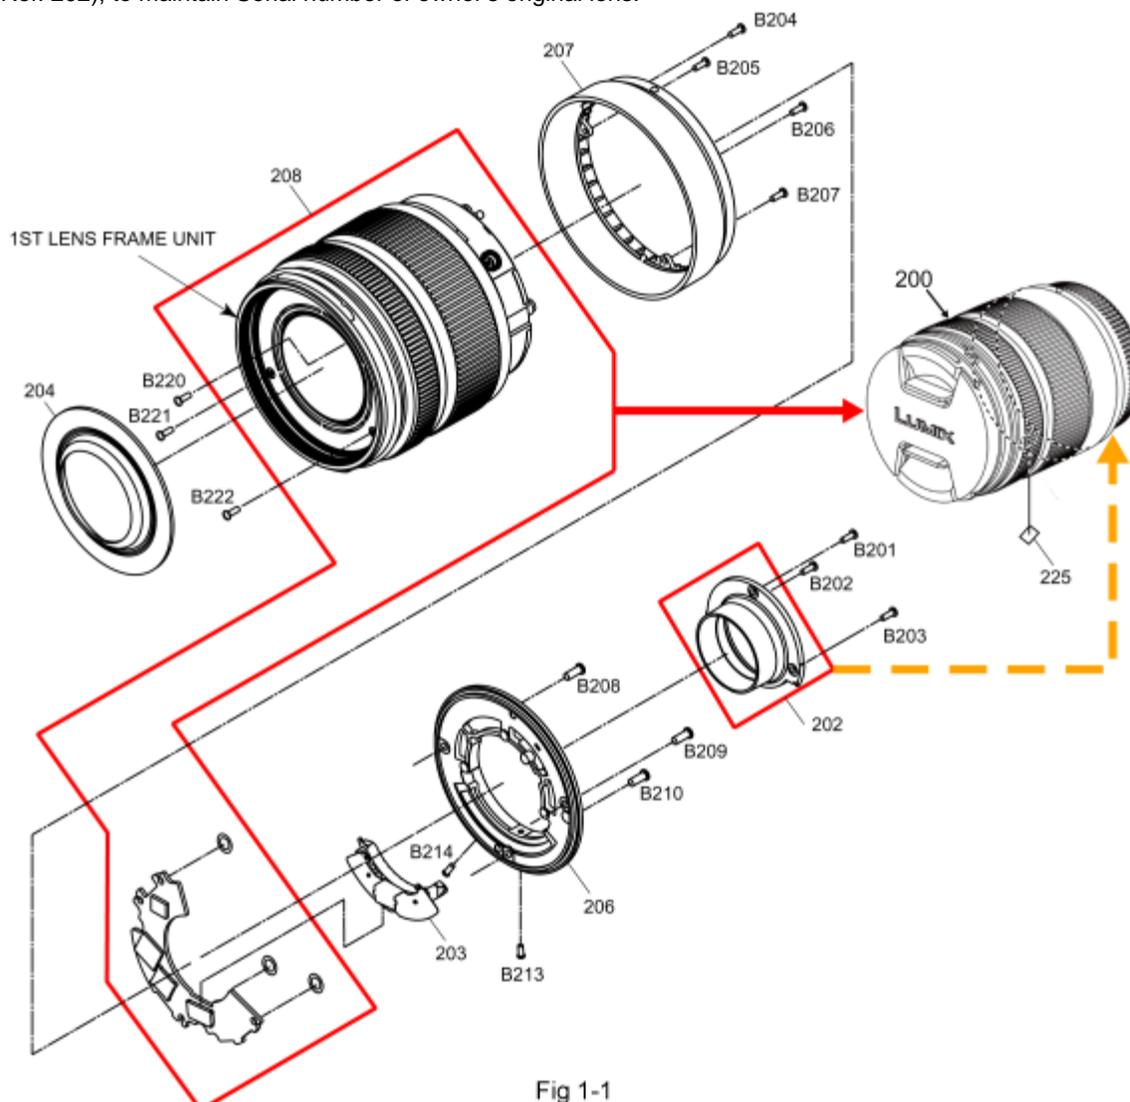

Fig 1-1
3. No adjustment is required when replacing the part mentioned on Fig.1-1. But, when tighten the concerned screws,apply proper torque mentioned on "4. Disassembly and Assembly Instruction" section.